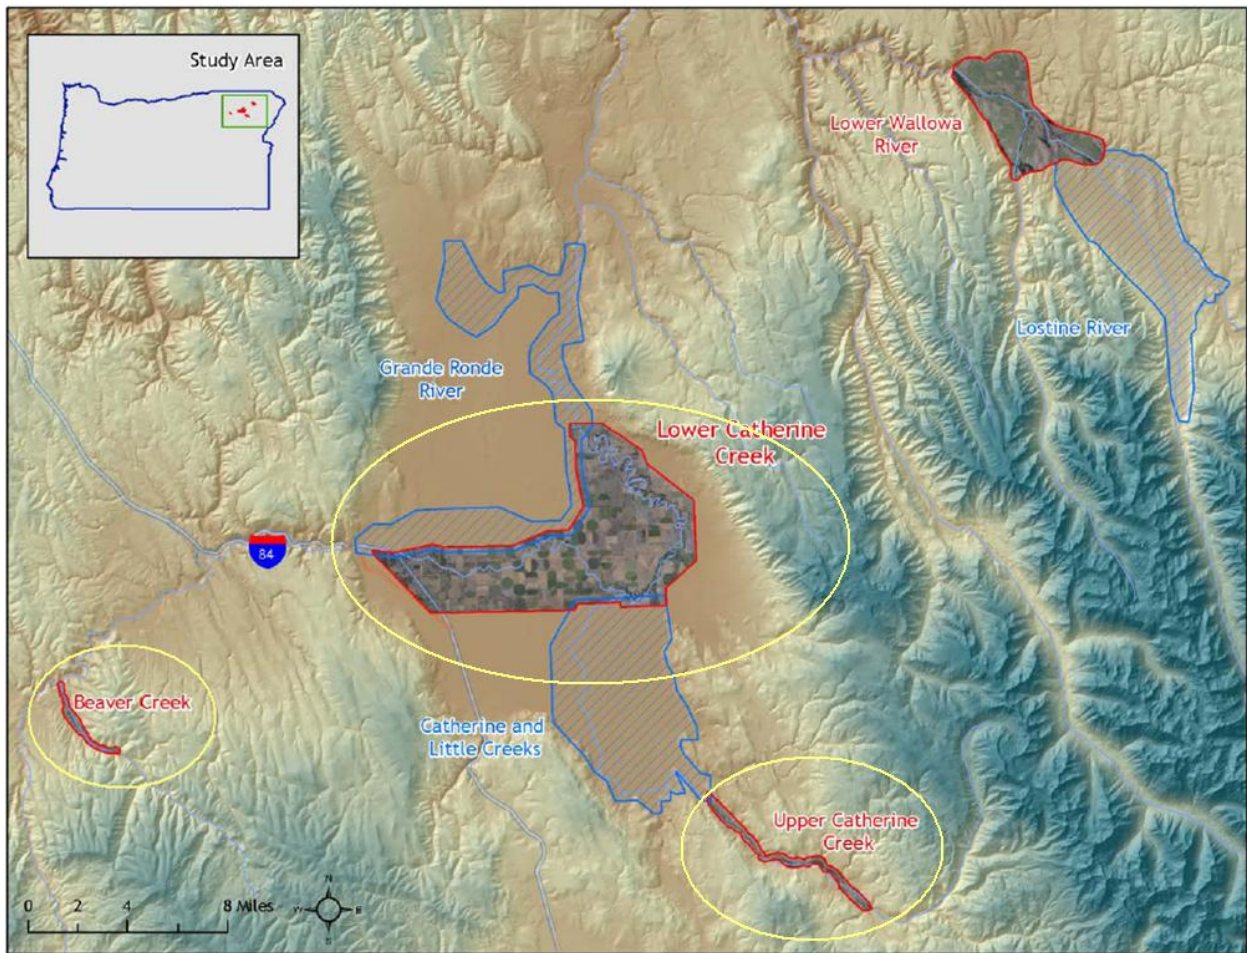

Figure 1: Project Area, note **highlighted** projects are the only ones for which data was received for this project.
**From the original project the Beaver Creek, Lower Catherine, and Upper Catherine datasets were donated to the USGS, see figure 1.**